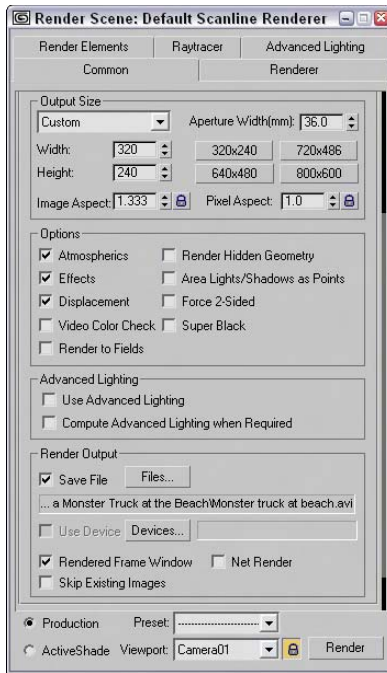

Figure QS-13: The Render Scene dialog box includes many diverse rendering settings.
1. Open the Render Scene dialog box, shown in Figure QS-13, by choosing Rendering ⇨ Render (or by pressing F10).